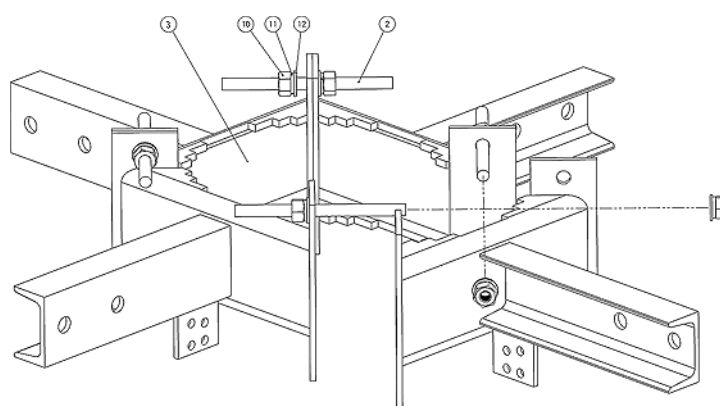

Figure C-22: Partially Assembling 4 Sector Clamp
- 3 Assemble three sectors of each of the 3 clamps as shown in Figure C-22 using bolts, washers, spring washers and nuts from the list in Table C-9.